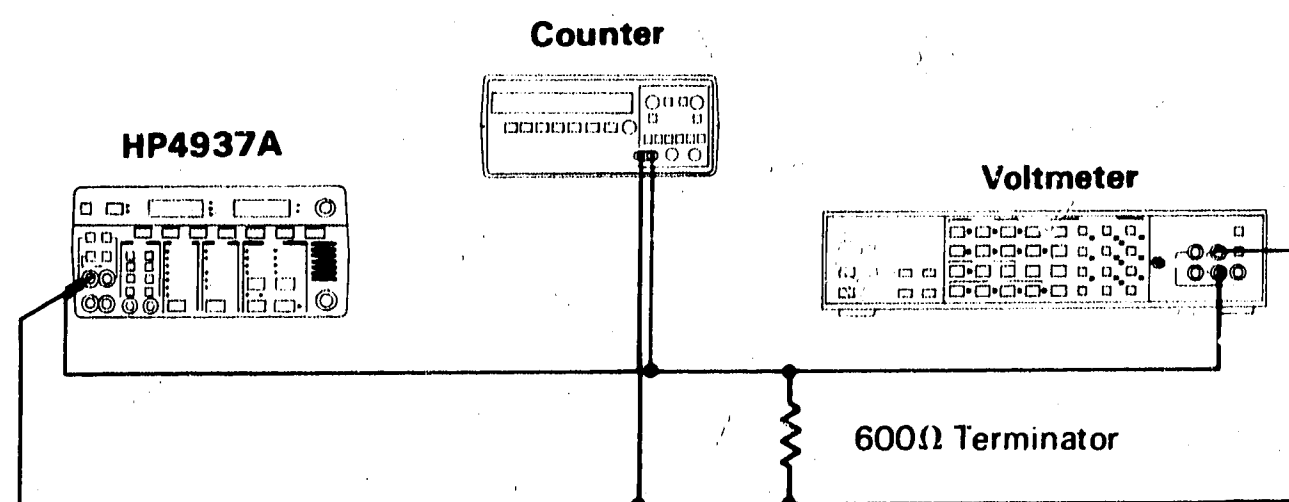

Figure 4-1. Transmitter Flatness Test at +10 dBm
1. Connect equipment as shown in figure 4-1.